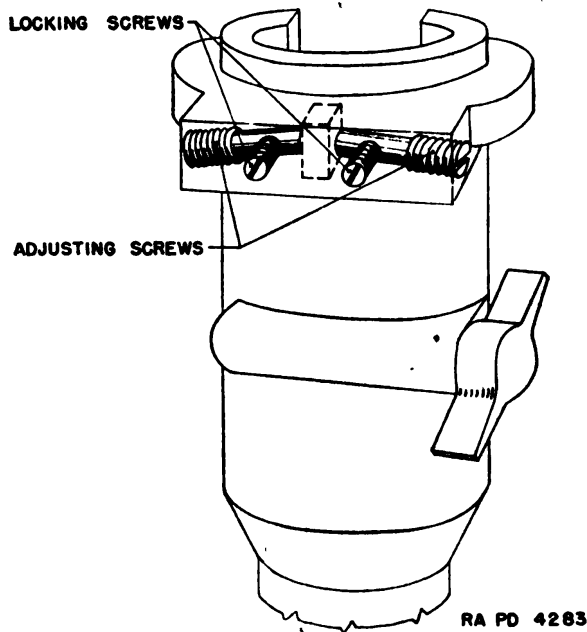

FIGURE 16.—Telescope lateral adjusting screws.
(2) Set up a test target about 50 feet away from the telescope mount. Bore sight on the test target and observe whether the vertical cross line of the telescope reticle falls on the proper vertical line of the test target. If it does not, an adjustment of the socket adjusting screws is necessary.
*b. Adjustment* (fig. 16).—(1) Set the azimuth micrometer knob to zero against the fixed index. The azimuth micrometer index should be
(2) Loosen the telescope socket locking screws (fig. 16) and adjust the adjusting screws until the vertical reticle line falls on the vertical line of the test target. Tighten the locking screws. The adjusting screw must be set snugly against the upper lug of the telescope but not tight enough to lock in the socket.